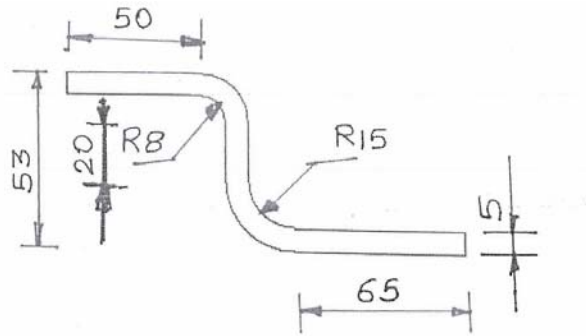

Figure No.2 All dimensions in mm
- b) Calculate developed length of the part as shown in figure no. 2 [6]